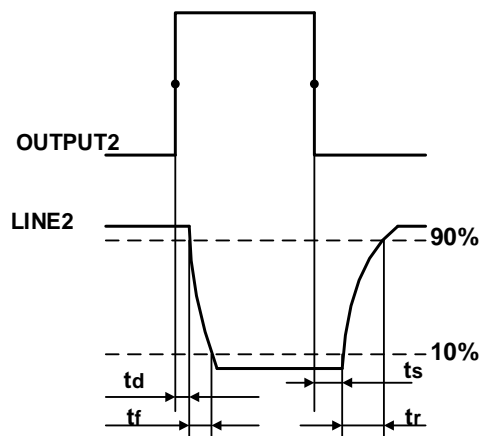

Figure 7-30 Parameter of opto-isolated output circuit
- Rising time delay = t_r+t_d : $<20\mu s$ (0°C~45°C) (parameter description as shown in Figure 7-30)
- Falling time delay = t_s+t_f : $<20\mu s$ (0°C~45°C) (parameter description as shown in Figure 7-30)